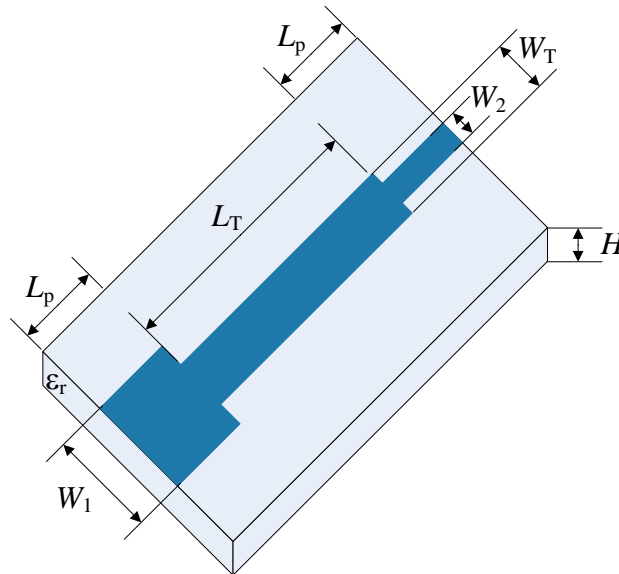

Fig. 2 Quarter-wave impedance transformer matching two microstrip lines of widths  $W_1$  and  $W_2$ .
- e. Implement in ADS the circuit illustrated in Fig. 2, using the dimensions you found in the steps a), b) and c) of the theoretical procedure and taking  $L_p = 900$  mil. Define the input and output ports with references impedances of  $50\ \Omega$  and  $100\ \Omega$ , respectively. Plot the corresponding S-parameters of the line ( $|S_{11}|$  and  $|S_{21}|$  in dB, from 10 MHz to 10 GHz in linear scale). Verify that a good matching is achieved at 3 GHz (make a zoom on the plots of  $|S_{11}|$  and  $|S_{21}|$  in dB around 3 GHz). What happens if you vary the length of the input/output lines,  $L_p$ ?
- f. Finally, simulate the same circuit of the previous step but now incorporating losses and the two step transitions. For the dielectric losses, use a loss tangent  $\tan(\delta) = 0.01$ . For the metallic losses, assume that all metal traces (including the ground plane) are made of copper with conductivity  $\sigma = 5.8 \times 10^7$  S/m and thickness  $t = 0.6$  mil =  $15.24\ \mu\text{m}$  (half-ounce copper). For the two step transitions in Fig. 2, insert a couple of ADS components MSTEP (Microstrip Step in Width). Plot the corresponding S-parameters ( $|S_{11}|$  and  $|S_{21}|$  in dB, from 10 MHz to 10 GHz in linear scale; make a zoom on the plots of  $|S_{11}|$  and  $|S_{21}|$  in dB around 3 GHz). Compare these plots against those obtained in the previous step.